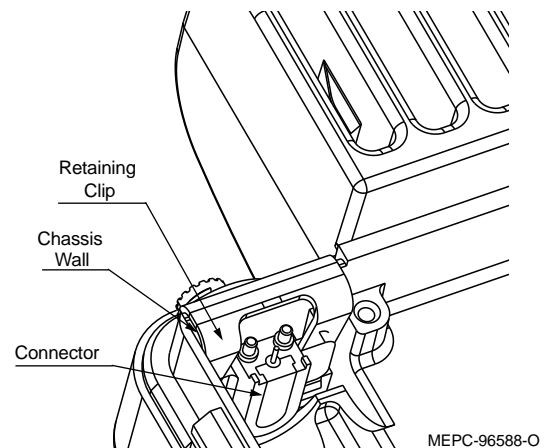

Figure 2-2 Install Connector Retaining Clip
3. Install connector retaining clip over connector and chassis wall (See Figure 2-2.).